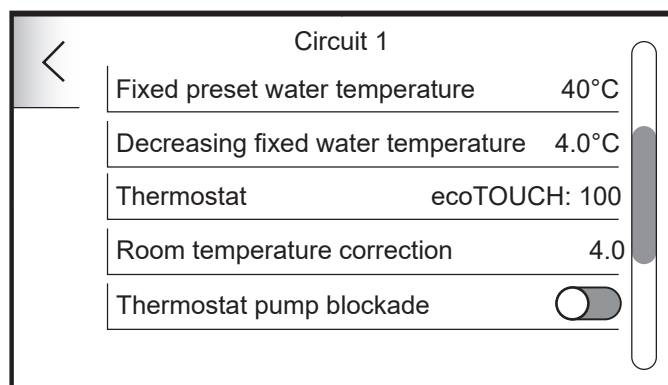

Figure 7-13: Edit Circuit 1 settings
4. Swiping the touchscreen display scroll down to 'Thermostatic pump blockade'. Tap the icon to switch on. (Refer to Figure 7-13)